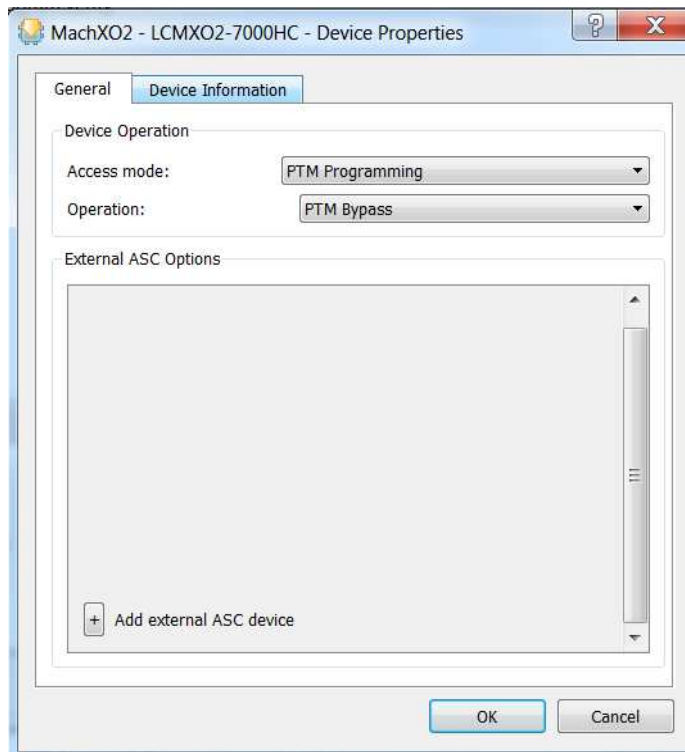
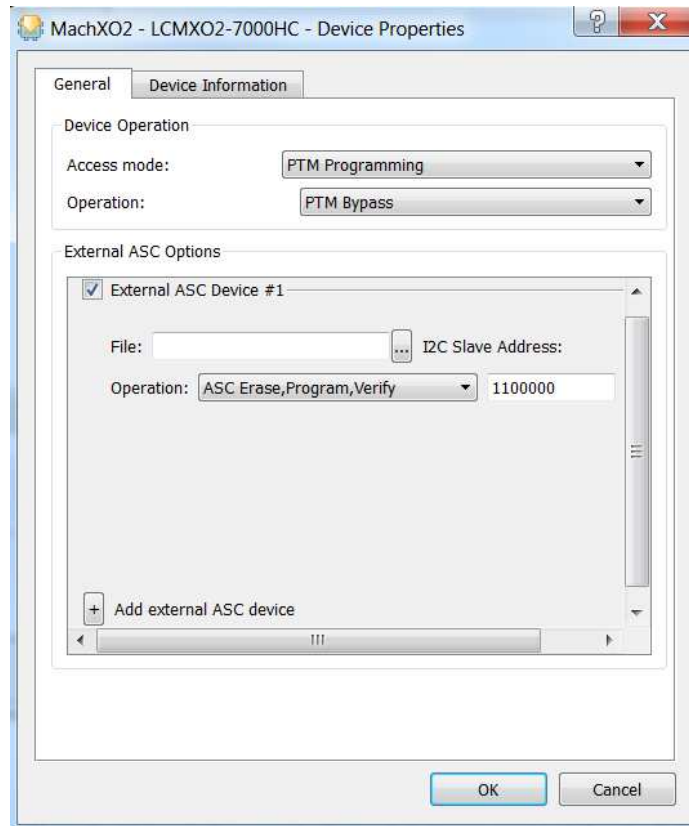

Figure 5.15. ASC Socket – Add External ASC Device
Figure 5.16. ASC Socket – ASC File Load Menu
4. Add an external ASC device, by clicking the  button as shown in Figure 5.15. The **Device Properties** dialog box appears as shown in Figure 5.16.